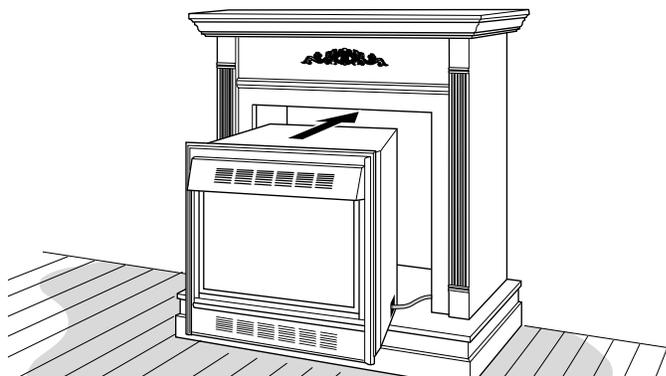

Figure 10 - Inserting Fireplace Into Cabinet Mantel
7. Carefully place fireplace on top of hearth base (Figure 10). Be careful not to scratch or damage hearth base. **Note:** You can secure fireplace to hearth or floor. Open lower louver. Locate screw holes in bottom of base. Secure with wood screws through these holes and into hearth or floor.